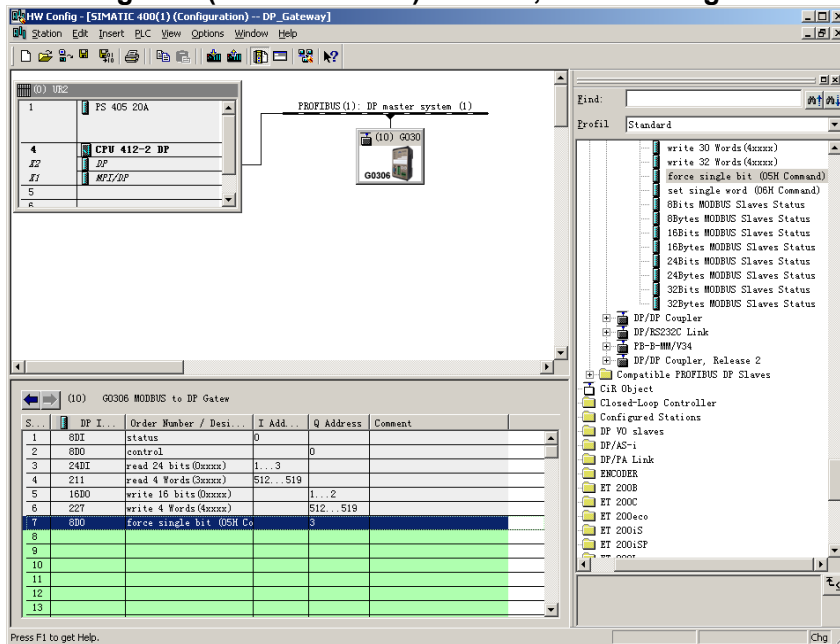

Figure 28 Add “force single bit (05H Command)”Module
a) **Add “force single bit (05H Command)”Module, shown in Figure 28:**